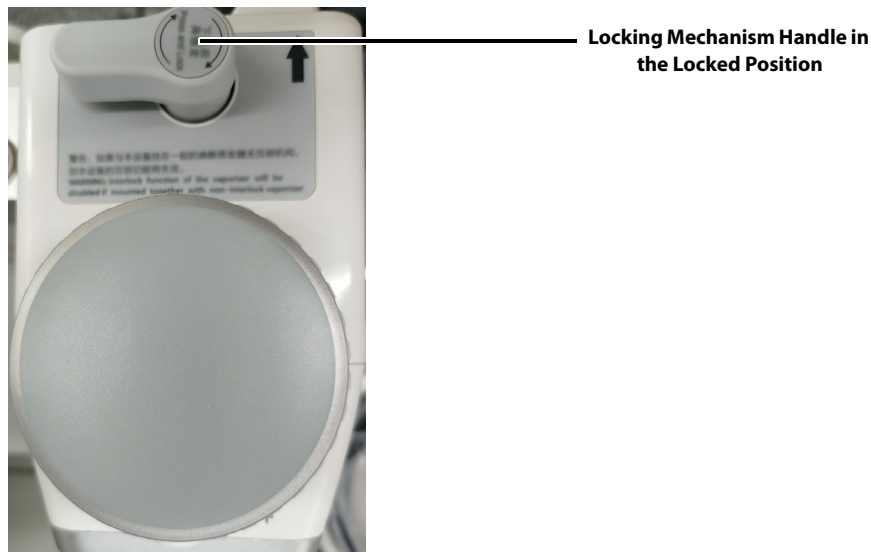

Figure 3-2 Vaporizer, locked
3. Rotate the locking mechanism handle clockwise into the locked position as shown in Figure 3-2.